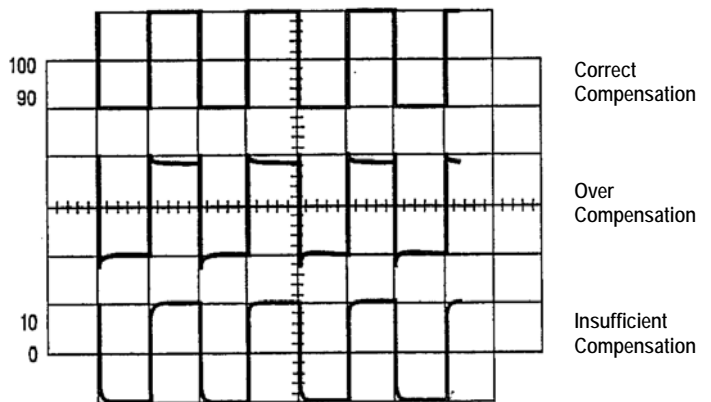

Fig. 5. Probe Compensation Adjustment.
5. Adjust compensation trimmer on probe for optimum square wave (minimum overshoot, rounding off, and tilt). Refer to Fig. 5.